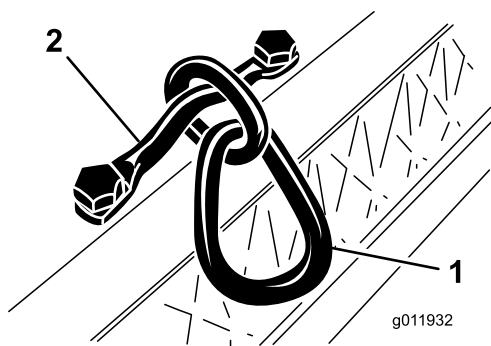

Figure 7
2. Torque the capscrews to 34 to 40 N·m (25 to 30 ft-lb) (Figure 7).